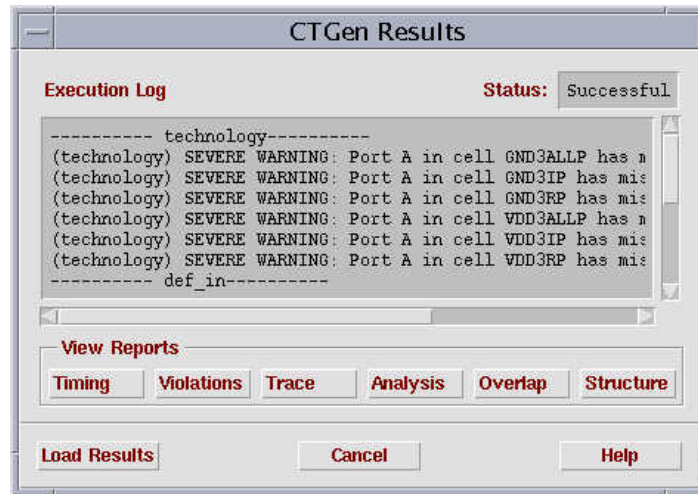

Figure 7-29 CT Gen Results form.
4. Click on **Ok** on the warning window to save design. CTGen runs and executes the design\_name.ctgen.cmd (pr\_adder32.ctgen.cmd) file. After a few mins, the **CT Gen Results** come out as figure 7-29.